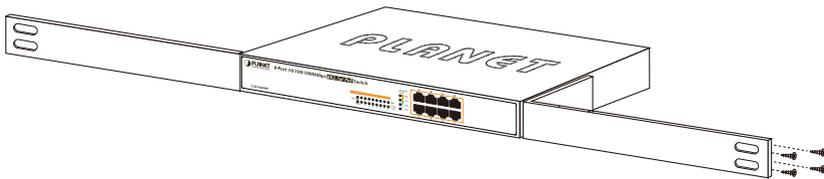

Figure 2-5: Attaching the Brackets to the Switch
Step 2: Attach a rack-mount bracket to each side of the Switch with supplied screws attached to the package. Figure 2-5 shows how to attach brackets to one side of the Switch.